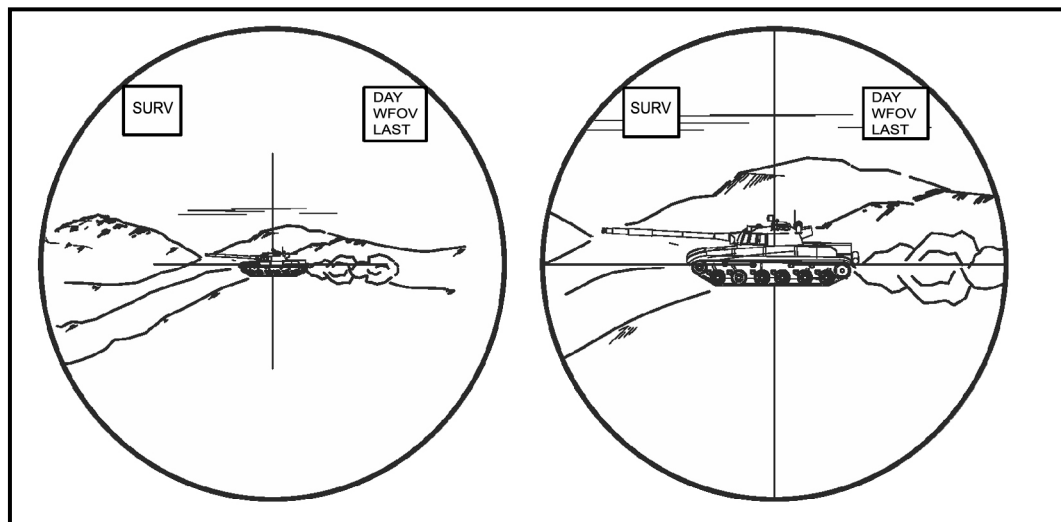

Figure 1-16. ITAS daysight fields of view.
(2) **Daysight.** The daysight provides two fields of view with the same power as the NVS fields of view (Figure 1-16).